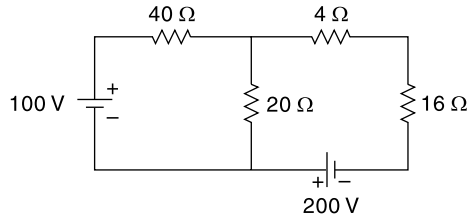

Fig. 4.81 Circuit of Ex. 4.55
4.55 Utilising the Superposition theorem find the current through the $20\ \Omega$ resistor for the network shown in Fig. 4.81.